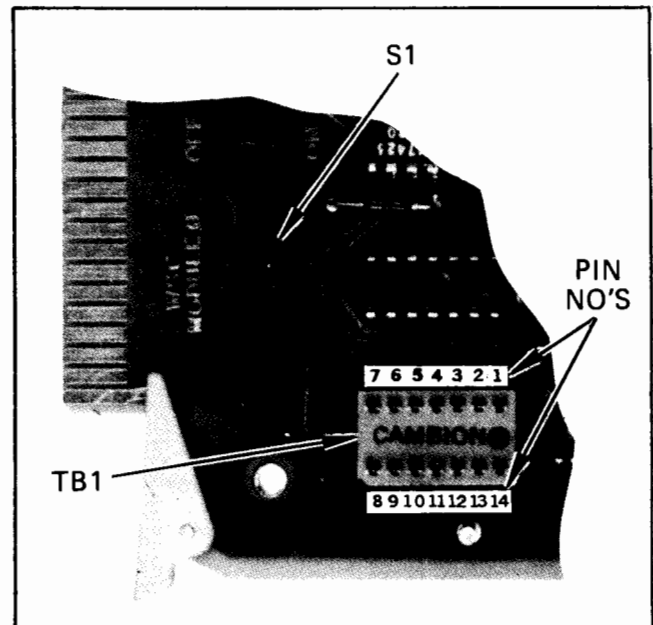

Figure 6-2. WCS Terminal Board for Selecting Module Number Position
- d. On the writable control store remove the appropriate jumper wires from TB1 to select the desired module number (see figure 6-2 for pin number configuration). Refer to table 6-4 for the desired module number and jumper removal.